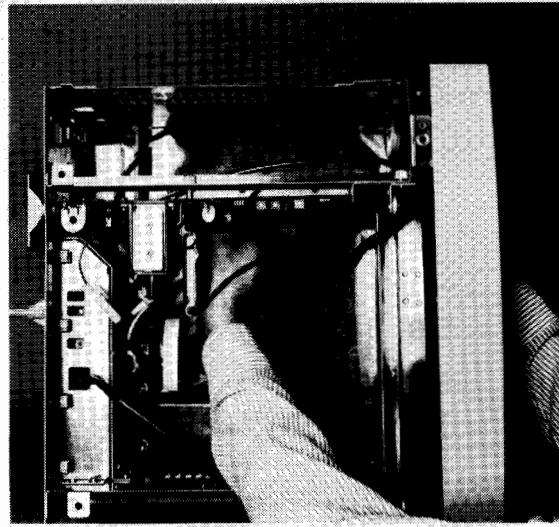

Figure 4-15. Removing the 9836C Anode Connector.
5. Press the anode connector to one side with your forefinger. Then rotate it out of the CRT (see Figure 4-15).